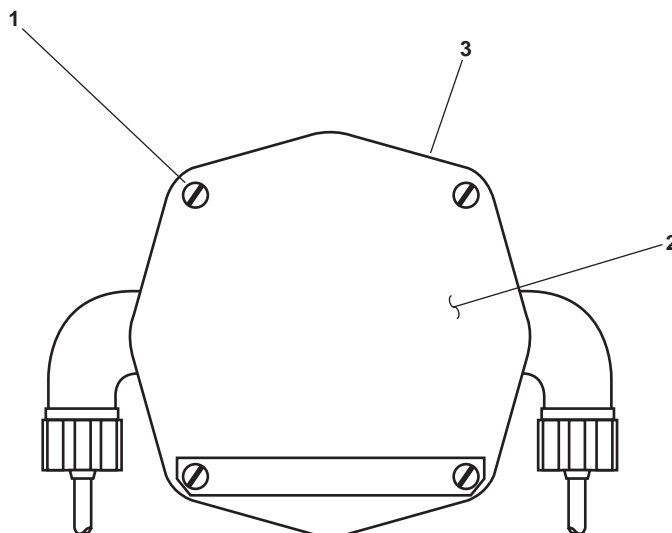

Figure 1. Electrical Junction Box
1. Remove the four screws (figure 1, item 1) securing the junction box cover (figure 1, item 2).
2. Remove the junction box cover (figure 1, item 2).
3. Take voltage readings with a multimeter, measuring across all connection points in the junction box (figure 1, item 3), to ensure that electrical circuits are deenergized. If voltage is present, ensure that the proper circuit breaker is OFF, locked out, and tagged out (FM 55-502). If no voltage is present, proceed with the procedure.
4. Label and disconnect the fresh water flush pump wires in the junction box (figure 1, item 3).